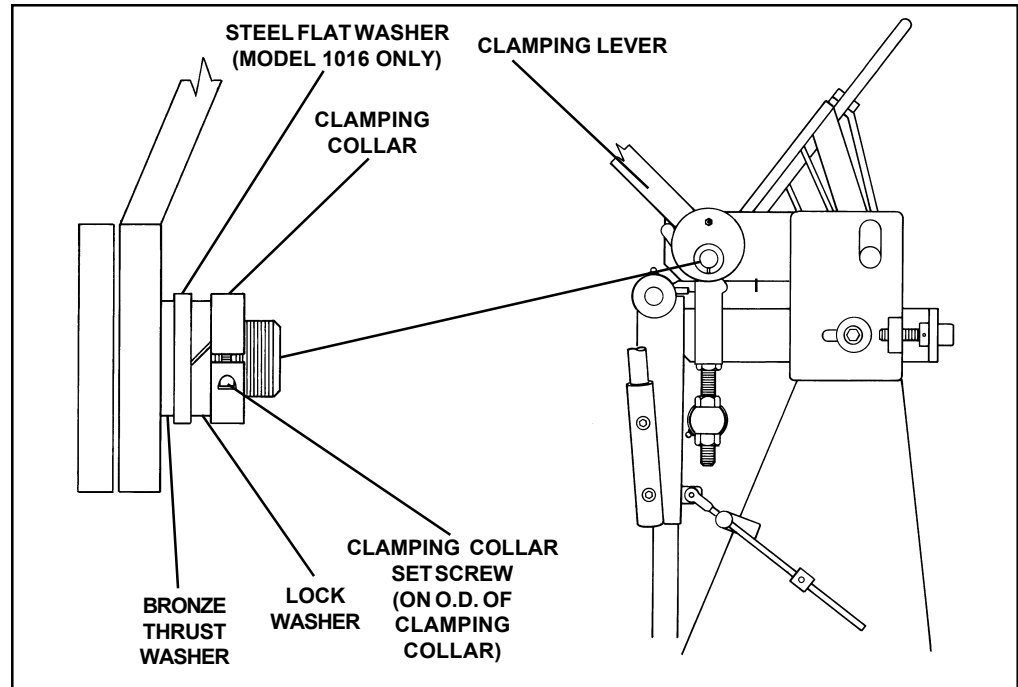

Figure 8. Adjusting the Clamping Lever Collars
The upper and lower beam tensioning screws (see Figure 8) are under heavy load and must not be allowed to run dry. Keep them lubricated with an anti-sieze compound.
If the machine is frequently readjusted, the lower apron tensioning lock nut (see Figure U), and upper beam tensioning lock nut, and the lower beam tensioning locknuts (see Figure 8), they should be kept lubricated with an anti-sieze compound.
6. Adjust the upper and lower beam tensioning screws finger tight; and then tighten each with a wrench approximately one full turn (five flats) (see Figure 8).